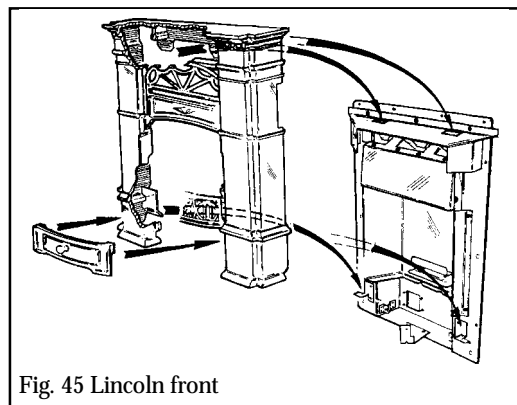

Fig. 45 Lincoln front
16.2.2 Raise the Cast front surround so that the lugs in the lower case support brackets and upper location plate are released from their locations in the fire unit – See figure 45. Lift the cast front clear and place safely.
Holding the cast front a little above the top surface of the convection box, locate the two lugs into the lower case support brackets and the upper location plate into the two slots in the upper case front support. Gently lower the cast front onto the hearth making sure that it causes no damage to the hearth or fireplace surround. The cast front should sit squarely on the hearth and against the vertical surface of the fireplace. See figure 45.